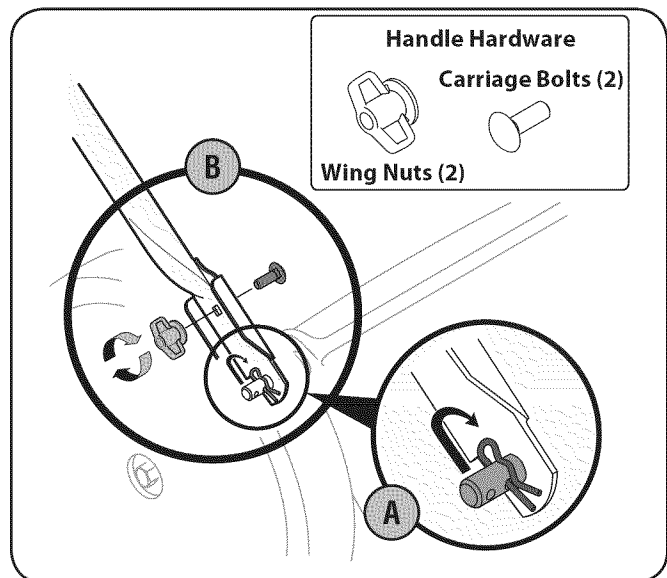

Figure 3-2
- a. Remove hairpin clip from this hole. Using a pair of pliers, insert hairpin clip into the other hole on the weld pin. Repeat on other side. See Fig. 3-2.
- b. Insert a carriage bolt found in the manual bag into the upper hole on the handle mounting bracket. Secure with one plastic wing nut, also included in the manual bag. See Fig. 3-2. Repeat on other side with remaining hardware from manual bag.